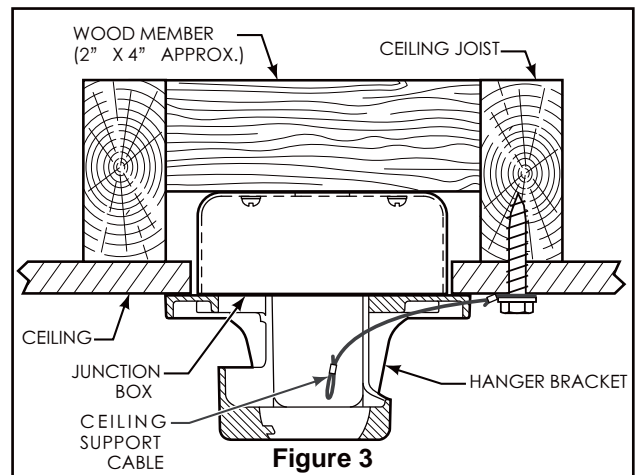

Figure 3
1. Using the  $\frac{3}{8}$ " x 2" lag bolt and flat washer, attach safety cable to ceiling joist or wood structural member. The lag bolt will pass through the flat washer, safety cable loop, and into the building structure (Figure 3). You will first drill a  $\frac{1}{4}$ " pilot hole into the building structure to prevent splitting or cracking.
**NOTE: Ceiling support cable cannot be secured to junction box only, it must be directly secured to ceiling joist or structural member using the  $\frac{3}{8}$ " x 2" lag bolt and flat washer. (Figure 3)**